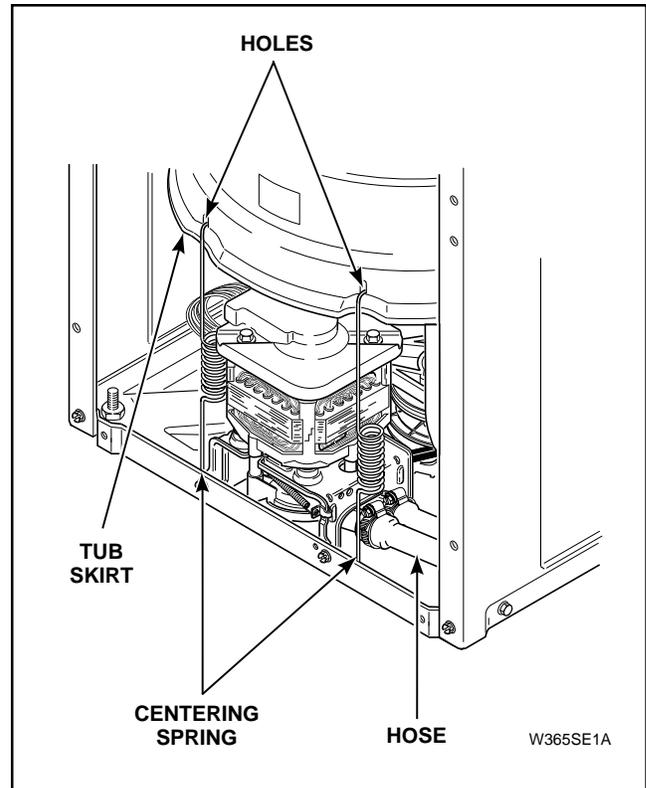

Figure 40
- d. Using No. 289P4 Spring Hook Tool, unhook seven centering springs from lower edge of outer tub skirt, *Figure 40*.